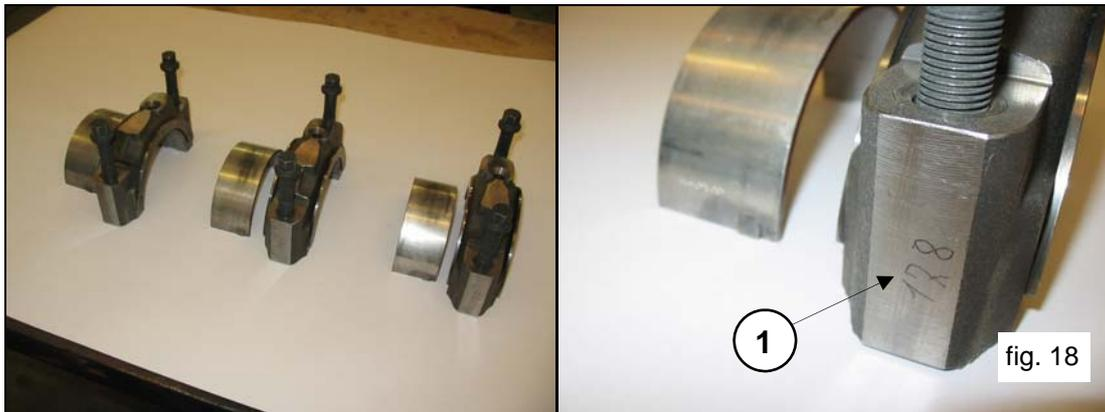

fig. 18
To prevent any errors, small ends and big end halves are numbered on one side (pos. ①, fig.18).